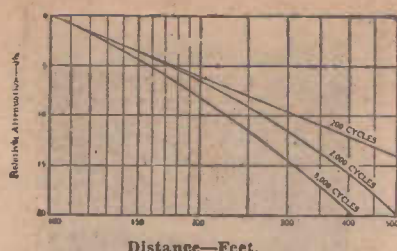

Fig. 1. Curves showing the relative attenuation with distance from the source for the frequency range 200 to 8000 cycles.
In the U.S.A. the present standard adopted by the R.M.A. (20) is the allocation to a television service of a channel 6 Mc/s wide, in which both transmitters are located (see fig. 1). The separation between carriers is 4.5 Mc/s and is achieved by "quasi-single sideband" or "vestigial sideband" operation, in which a large proportion of the lower sideband is suppressed from transmission, resulting in a reduction of the total bandwidth requirements.
quencies with increasing distance, bell tones undergo a mellowing effect as the listener moves away from the immediate vicinity of the tower. With this mellowing effect and for the same reason, the characteristic tonal quality, which at close range may distinguish sharply between bells of various kinds, becomes less marked as the higher harmonic tones, in which much of the initial difference resides, become attenuated. In practice, for propagation, over the surface of the earth, the characteristics both of the intervening terrain and atmospheric conditions appreciably affect not only the intensity but also the tonal quality of any complex sound received (Fig. 1).